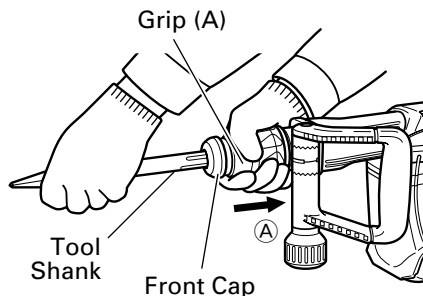
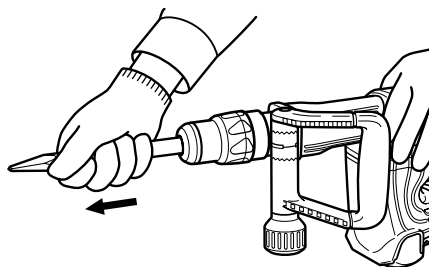
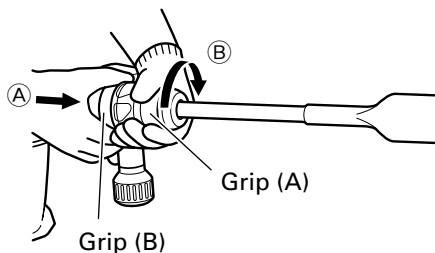

Fig. 2
Fig. 3
Fig. 4
- (1) Clean the shank portion of the tool.
- (2) As shown in Fig. 2, pull grip (A) in the direction of **A**, and insert the tool into a hole of the front cap.
- (3) Adjust the groove position while turning the tool, and furthermore insert it until it hits the end of the hole.
- (4) Return grip (A) to its original position, pull the tool to make sure it is locked completely. (Fig. 3)
- (1) As shown in Fig. 4, the blade angle can be freely changed if the grip (A) is turned in the direction of **B** in a state where grip (B) is slid in the direction of **A**.
- (2) Release grip (B) and turn the tool, and make sure that it is locked completely.
As shown in Fig. 2, pull grip (A), and pull out the tool.